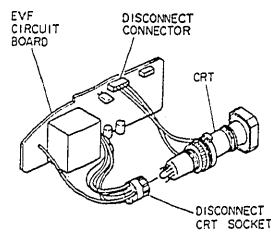

Fig. 2-153
- 2) Disconnect connector CN801 on the EVF circuit board. (See Fig. 2-153)